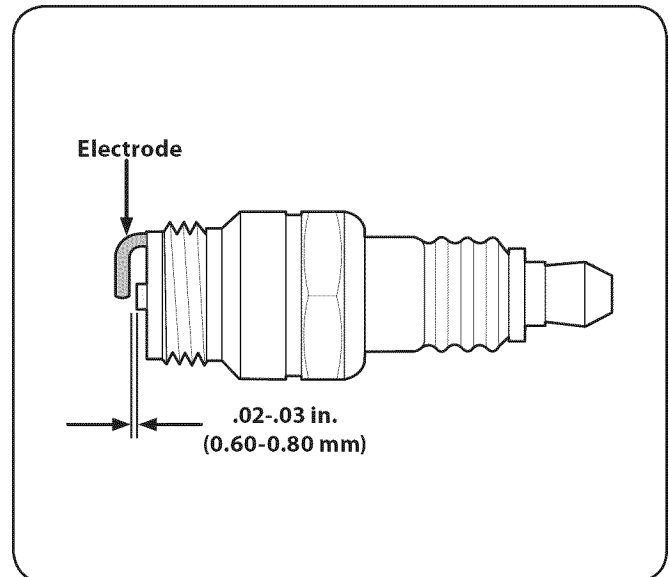

Figure 7-4
3. Measure the plug gap with a feeler gauge. Correct as necessary by bending the side electrode, Fig. 7-4. The gap should be set to .02-.03 inches (0.60-0.80 mm).